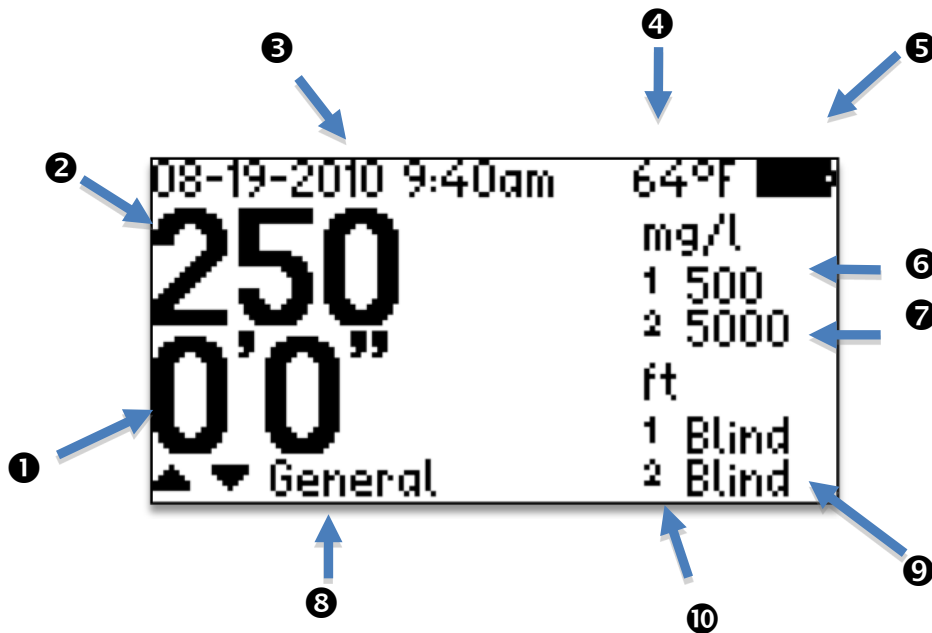

fig 6
At start up, the display is shown in fig 6 and description in fig 7. Measured concentration is displayed on the left and alarm values for Threshold 1 (6) and Threshold 2 (7). General information like time, date and temperature will always be displayed in the top